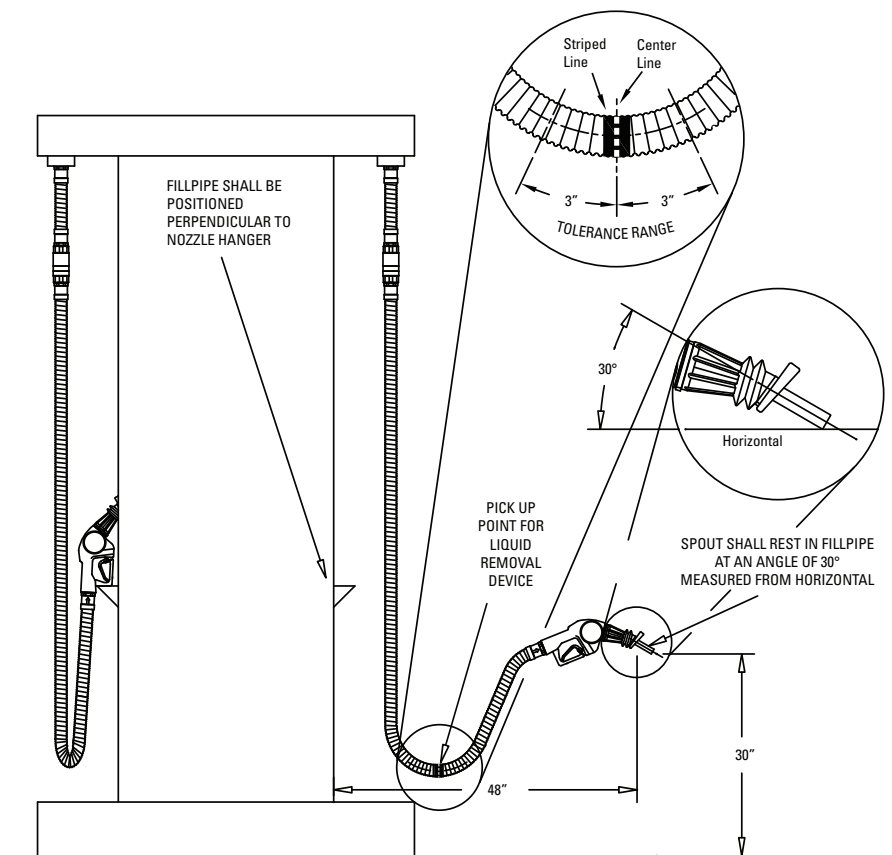

Figure 2. Procedure For Positioning the Liquid Removal Device
This procedure must be followed to insure proper positioning for the liquid-removal device in Part Number Series: VDV-EVR (See Figure 2).
2. When the hose and nozzle are held in position as shown in Figure 2, the factory installed liquid-removal device indicator-mark (striped line) on the vapor hose must be located: